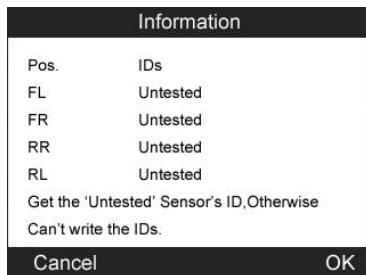

Figure 4.25
- 🔍 **NOTE:** If there are untested sensors in the vehicle, the writing ID process cannot proceed. The tool will display a warning message as below. (Figure 4.25) In this case, follow the sensor check procedure to activate all sensors in vehicle and register sensor IDs again.